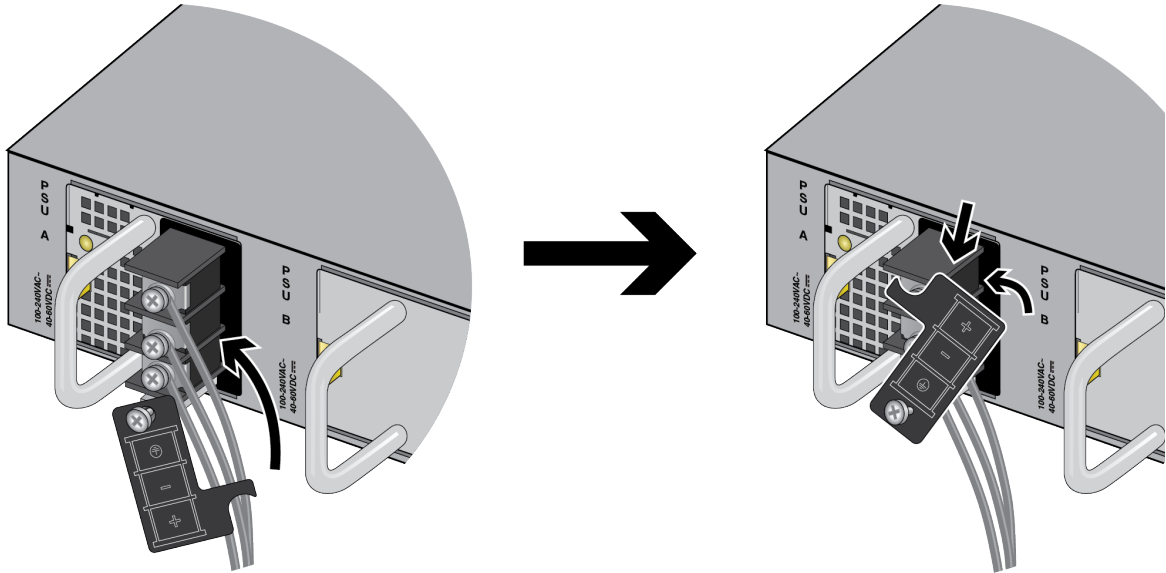

Figure 71. Placing the Cover Panel
8. Place the cover panel back to cover the connectors. Refer to Figure 71.